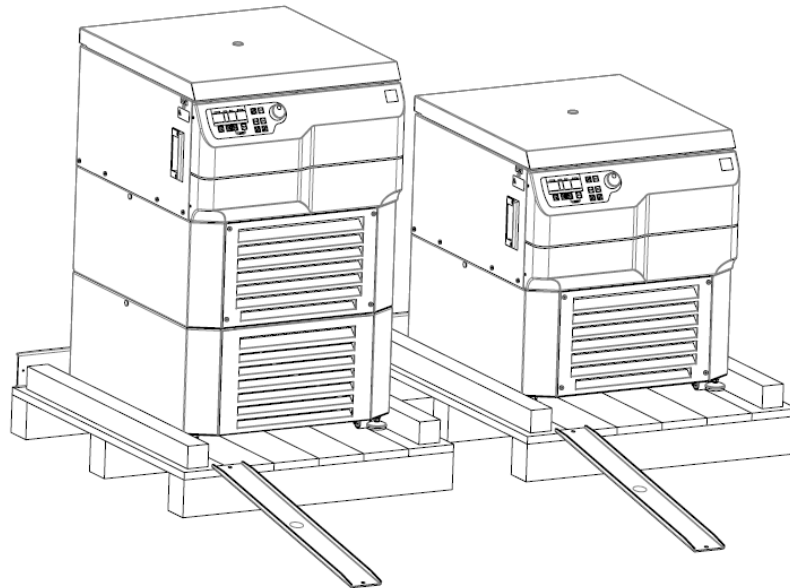

Figure 2
- Remove the metal bars, which are fixed onto the pallet and fix them to the front edge of the pallet so that they can be used as a ramp (see Figure 2). Use the same screws and pay attention to secure screw connection.
- Take the provided open-ended spanner to move the centrifuge feet up until it is on its rollers (see also Figure 2).